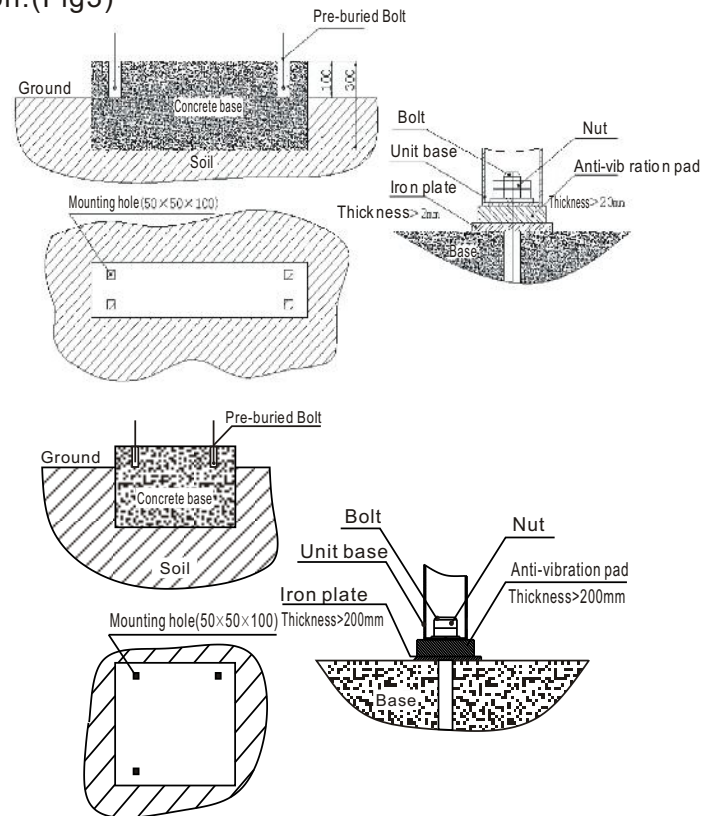

Fig 3
According to the position and installed dimension to made the base.(Fig 3)
- 8) To avoid units distortion and even rupture, which is caused in displacement of the unit run for a long time, you should take some measures to fix the unit at the restrict position. (Fig3)